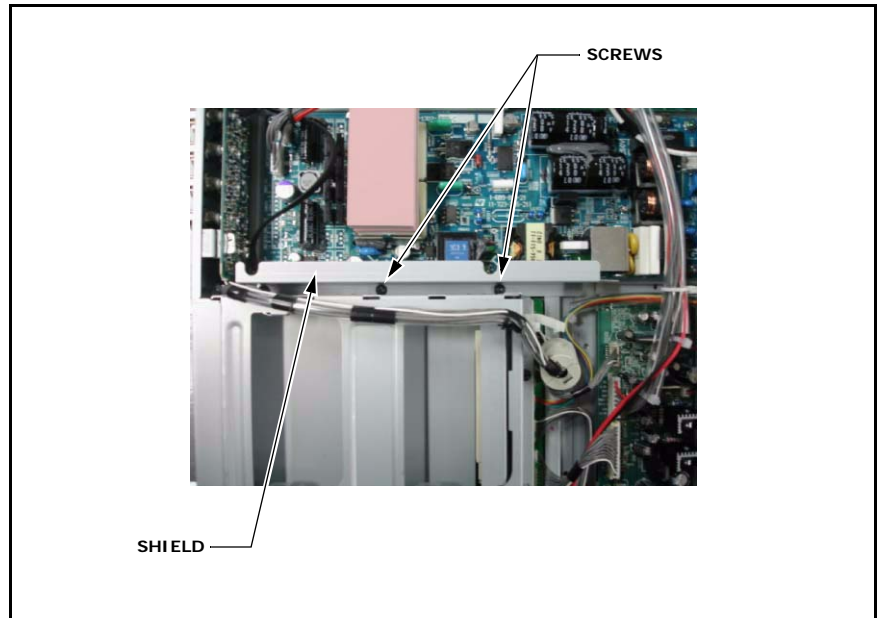

Figure 3
5. Remove the shield (2-633-338-02) (two screws). (See Figure 3.)